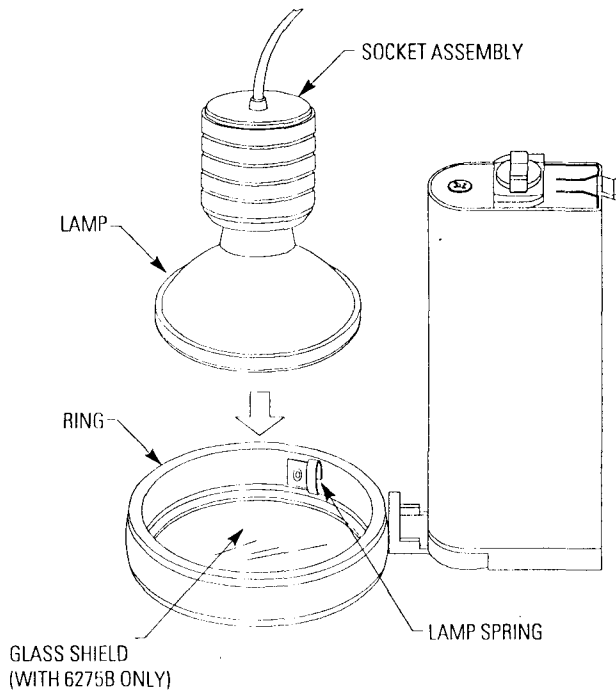

FIG. 6
3. Insert LAMP into RING until (3) LAMP SPRINGS engage fully with the LAMP RIM (Fig. 6).